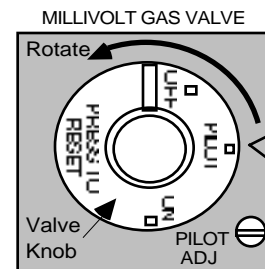

FIGURE 7
1. Slightly push **MILLIVOLT GAS VALVE** Knob. Turn clockwise to "OFF". (FIGURE 7)
2. Put the **CONTROL SELECTOR SWITCH** into the **OFF** position. (FIGURE 7) Accessory Controls must also be turned "OFF". For Remote Control, put the **Remote Receiver Switch** in the "OFF" position. For **Thermostat Controlled** models, turn temperature dial to "OFF" or to the lowest temperature setting.
4. Slightly push **MILLIVOLT GAS VALVE** Knob and turn counter clockwise to "PILOT". (FIGURE 7)
1. Turn **MILLIVOLT GAS VALVE** Knob to "ON" (FIGURE 7).
NOTE: All three burner's (**FRONT BURNER**, **MIDDLE BURNER** and **REAR BURNER**) flame height are directly controlled by the position of the **MILLIVOLT GAS VALVE** Knob (FIGURE 7).
2. **Complete Shutdown (Including Pilot):** Place **Control Selector Switch** in "OFF". Turn "OFF" all **Accessory Switches**. Slightly push and turn **MILLIVOLT GAS VALVE (Figure 7) Knob** to "OFF".